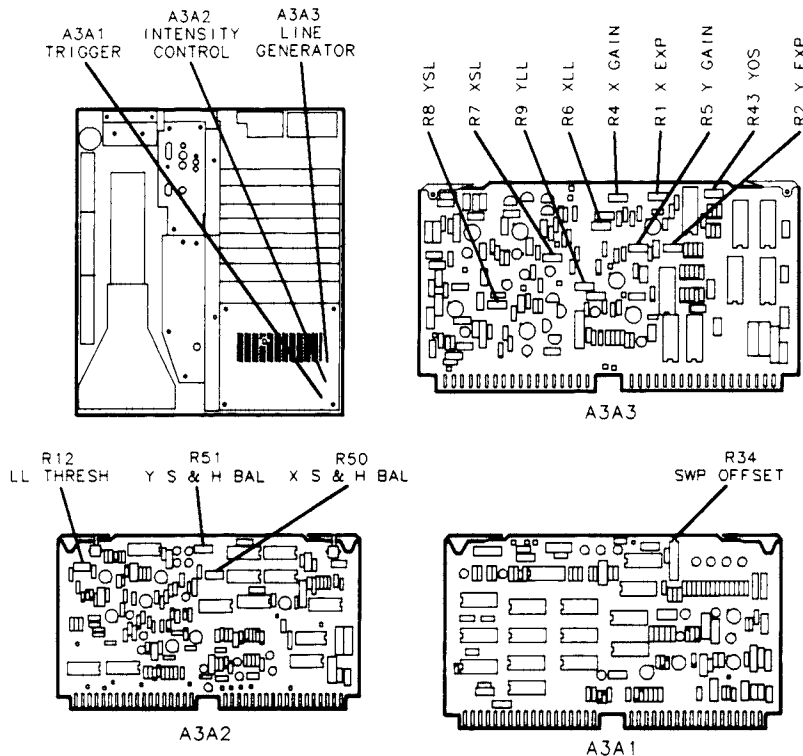

Figure 3-105.
4. Adjust A3A3R4 X GAIN and A3A3R5 Y GAIN to place graticule information completely on CRT. See Figure 3-105 for location of adjustment.
5. Adjust A3A2R12 LL THRESH fully clockwise. See Figure 3-105 for location of adjustment.
6. Adjust A3A3R6 XLL so that horizontal graticule lines just meet the vertical graticule lines at the left and right sides of the graticule. See Figure 3-105 for location of adjustment.
7. Adjust A3A3R9 YLL so that vertical graticule lines just meet the horizontal graticule lines at the top and bottom of the graticule. See Figure 3-105 for location of adjustment.
18. Adjust A3A2R50 X S&H BAL for minimum dc offset between the level of the signal inside the two pulses to the signal level outside the two pulses. Figure 3-106 shows a properly adjusted waveform. Figure 3-107 shows the waveform before adjustment. Refer to Figure 3-105 for location of adjustment.
28. Adjust A3A1R34 SWP OFFSET so that the signal trace begins at the left edge graticule line. Refer to Figure 3-105 for location of adjustment.
29. Adjust A3A3R4 X GAIN for twenty cycles displayed on the CRT graticule. This may be made easier by adjusting A3A1R34 SWP OFFSET so that the first peak is centered on the left edge graticule line, then adjusting A3A3R4 X GAIN for two cycles per division with the twenty-first cycle being centered on the right edge graticule line. A3A1R34 SWP OFFSET must then be readjusted so that the trace begins at the left edge graticule line. See Figure 3-105. for location of adjustment.